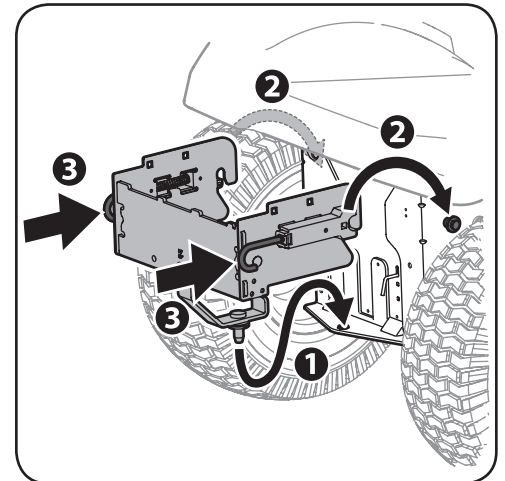

Figure 1-5
3. Slip the pin at the bottom of the bracket support assembly into the hitch adapter on the rear of the mower frame at a slight angle. See 1 in Figure 1-5.
4. Ease the hitch bracket assembly forward over the shoulder bolts on the sides of the mower frame. See 2 in Figure 1-5.
5. Release the j-pins from the rear of the bracket assembly. See 3 in Figure 1-5.